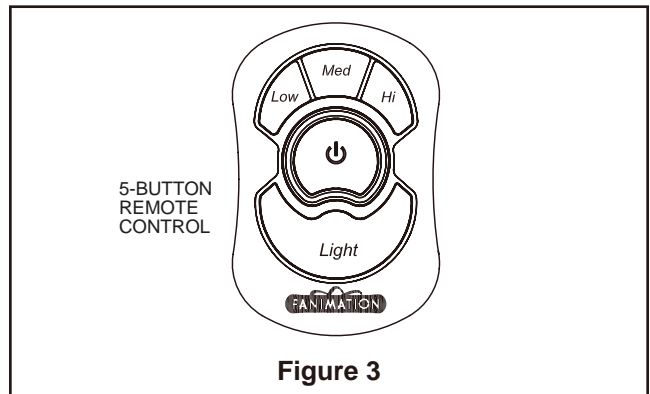

Figure 3
- 3. The 5-button hand-held remote transmitter includes buttons for high, medium and low fan speeds as well as buttons for fan off and light on/off. Infinite light levels are available by holding the light on/off button (Figure 3).